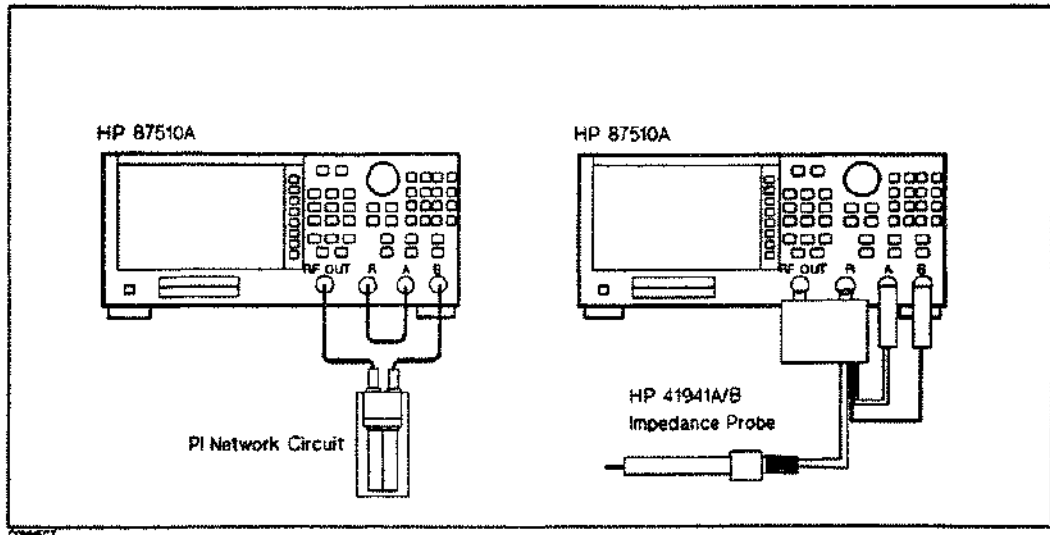

Figure 1-1. Measurement Configuration
3. Connect the π -network circuit or the impedance probe to the HP 87510A as shown in Figure 1-1.